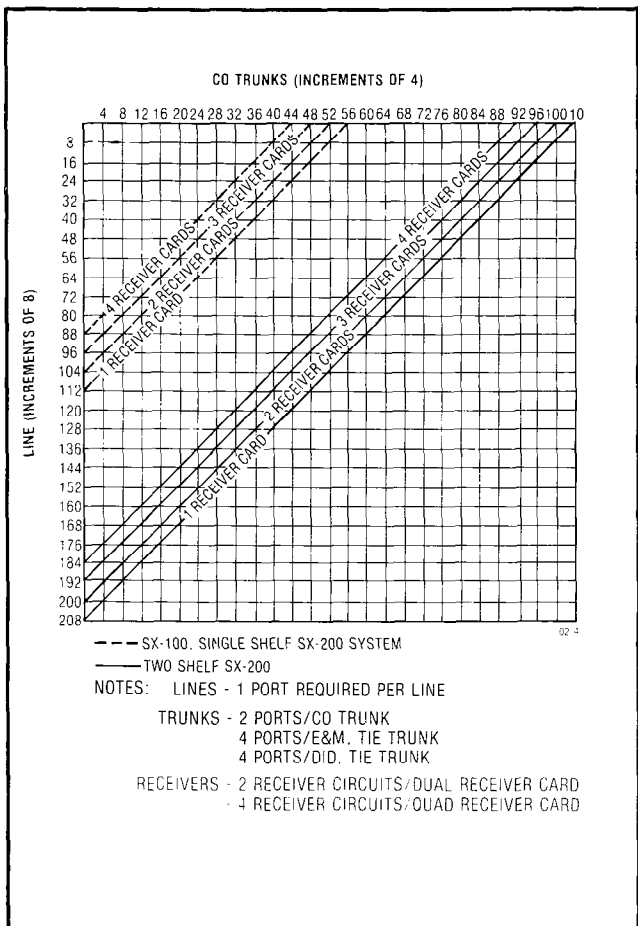

Fig. 2-1
2.01 The SX-100 and SX-200 are advanced Electronic Private Automatic Branch Exchanges (EPABX) employing digitally controlled solid-state space-division switching and stored program control. One hundred and twelve of the ports are available for assignments to lines, trunks and receivers. The remaining 48 ports are reserved for control and special functions. Fig. 2-1 shows the maximum line and trunk configuration for the SX-100. In the SX-200 two hundred and eight ports are available for assignments to lines, trunks and additional receivers. There are 48 ports reserved for control and special functions. Fig. 2-1 shows the maximum line and trunk configuration for the SX-200. The SX-100 and SX-200 are electrically compatible with most existing extension, key telephone, Private Branch Exchange (PBX) and Central Office (CO) equipment and provides—